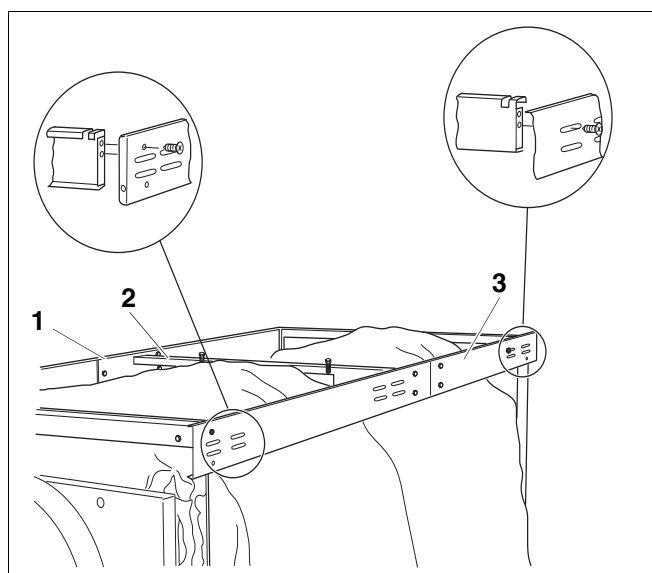

Fig. 18 Screwing connection plate together
- The connection plate is screwed on using the hole at the front and the slotted hole at the back (1 self-tapping screw in each) (Fig. 18).